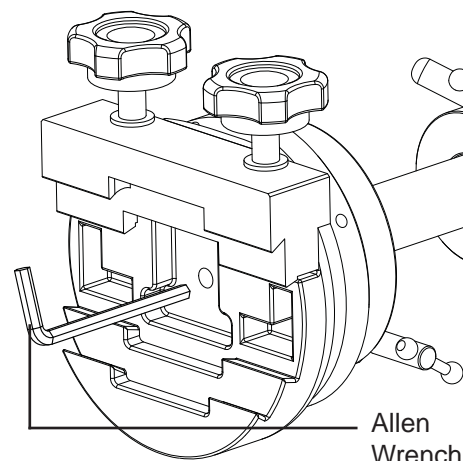

Fig. 2.5b
3. Use a 5mm Allen wrench to secure the saddle to the counterweight rod with the Allen screw in the central hole of the saddle (Fig. 2.5b). Also tighten the Allen screw on the silver ring with the same wrench.